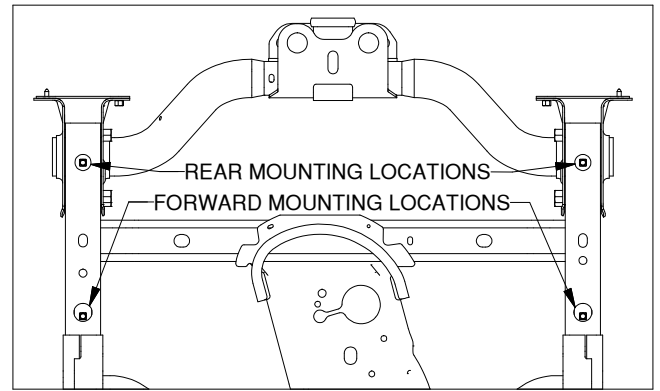

Figure B1: View under truck bed looking up.
1. **Locate the two hardware mounting locations.** On each side of the frame towards the rear of the truck there are two mounting hole locations, see Figure B1. Each hole will need a locking strap and carriage bolt.